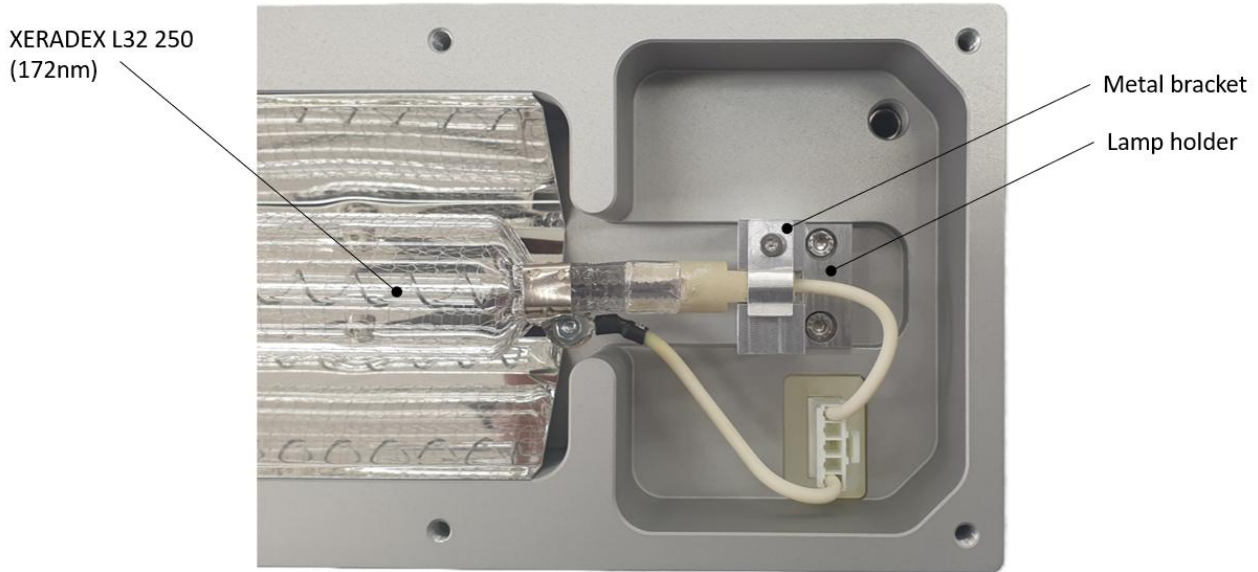

Figure 4: XERADEX L32/250/172 mounted inside
5. If necessary, adjust the position of the lamp holder to match the new lamp (Position 1 or Position 2; see Figure 4 and Figure 5).